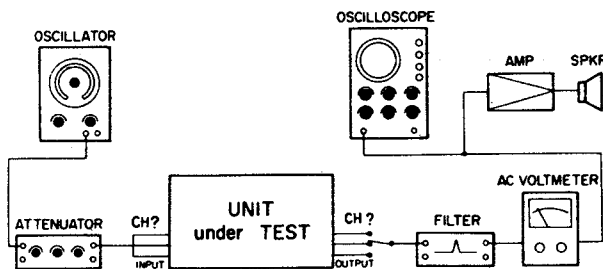

FIG. 30. CROSSTALK TEST SET-UP
1. Connect test equipment as shown in Fig. 30.